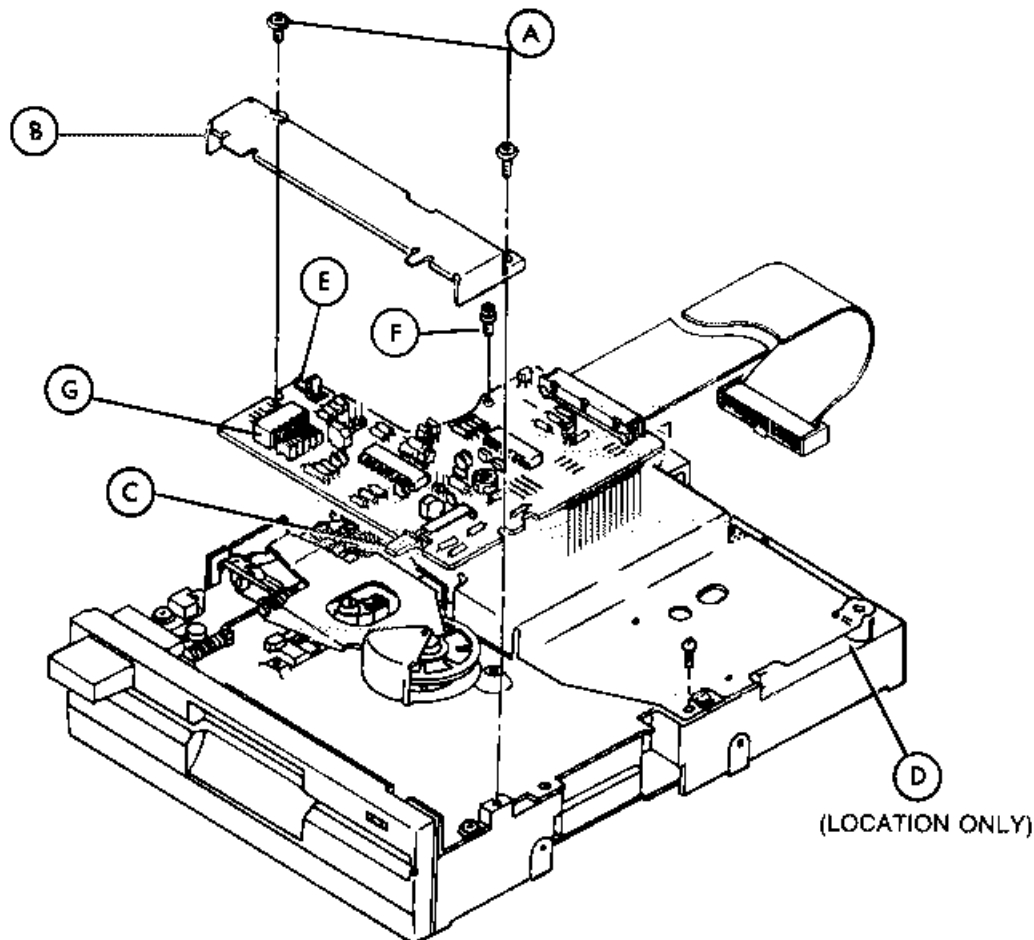

FIGURE 4-8. FDD CONTROL BOARD REMOVAL/REPLACEMENT
1. Slide the drive through the opening in the front case. Install two screws (D) to secure drive A, and two screws (E) to secure drive B.
2. Install screw (C) to the LED power indicator, position grounding plate (B), then install four screws (A).
4.3.3 FDD Control Board Removal (Figure 4-8)
4.3.4 FDD Control Board Replacement (Figure 4-8)